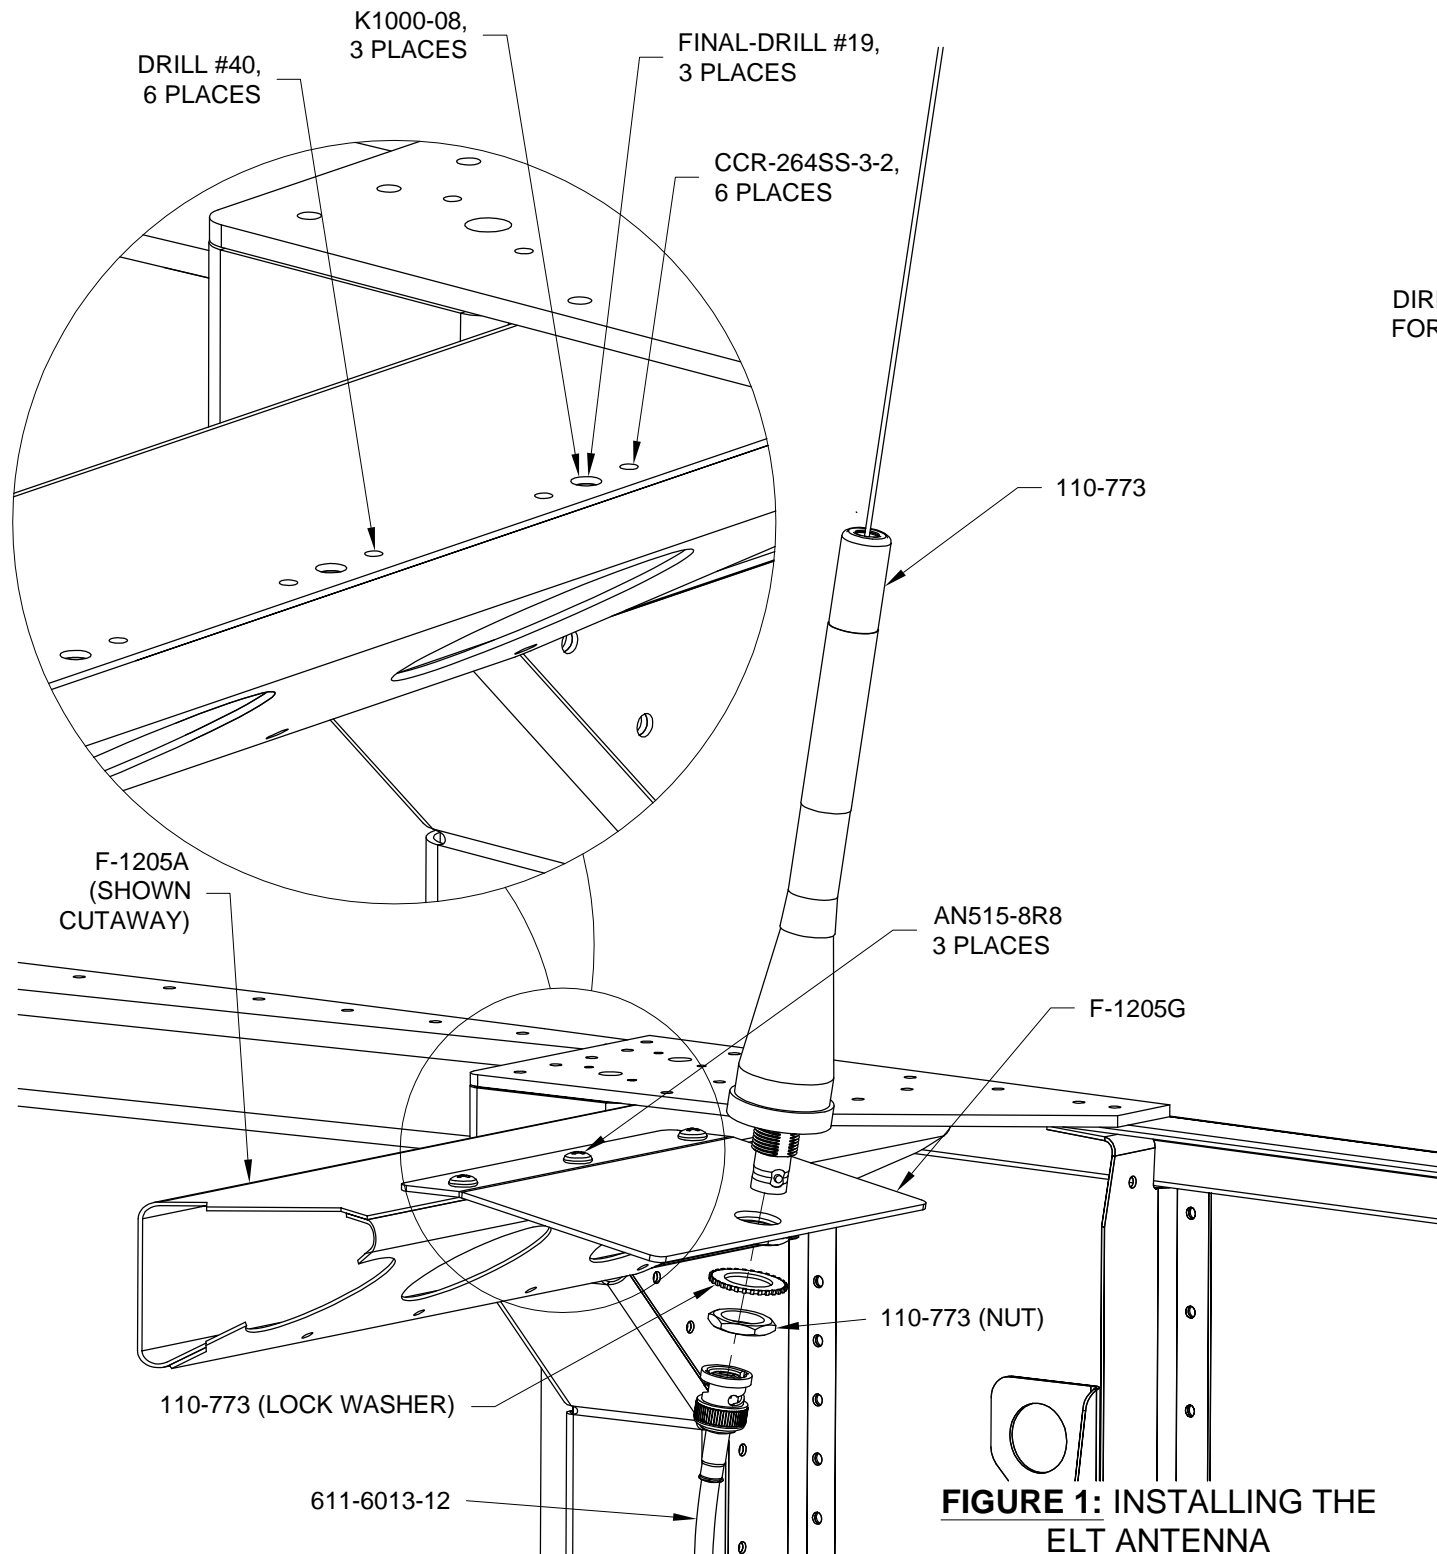

FIGURE 1: INSTALLING THE ELT ANTENNA
Step 3: Attach the 110-773 Antenna to the hole in the F-1205G Elt Bracket as shown in Figure 1.
Step 4: Use screws called out in Figure 1 to attach the F-1205G Elt Bracket to the nutplates attaches in Step 2.